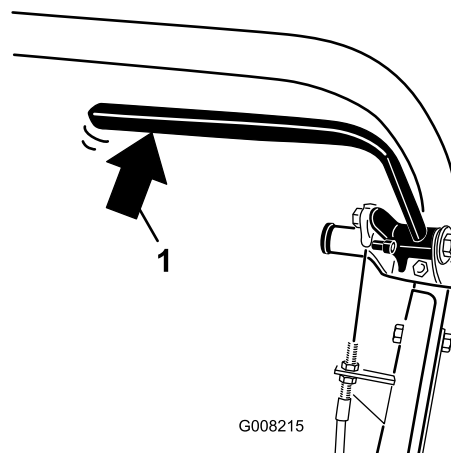

Figure 33
2. Using a spring scale, press rearward on the service-brake lever (Figure 33). The parking brake should release when a force of 13.5 to 18 kg (30 to 40 lb) is attained. If the parking brake releases before 13.5 to 18 kg (30 to 40 lb) of force is attained, adjust the brake cable.